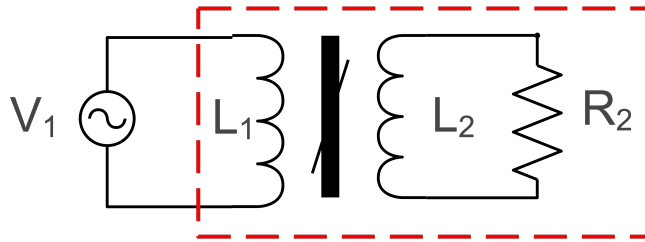

FIGURE 8. Thévenin equivalent black box (or in this case red box) to calculate an effective Thévenin input impedance.
**P3.2) Transformers: Thévenin Input Impedance:** In Sec. 2.1 and Fig. 1, we put the transformer in the black box with the primary voltage source ( $V_1, R_1$ ) and calculated the Thévenin equivalent source parameters. Now, as shown in Fig. 8, put the transformer in a black box with the load resistance,  $R_2$ , and calculate the effective load impedance in the limit that  $k = 1$  (an important case that you will need for this lab). Note that  $R_1 = 0$  as well to make the calculation easier (though I note that this choice doesn't change the answer, just the complexity of the math). Because of the fundamental symmetry of the transformer equations, it's also possible to just take Eq. 7 and do some variable swaps!